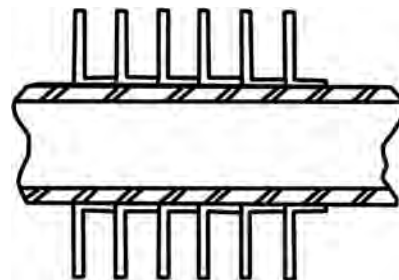

FIGURE 13.1 L-footed tension wound aluminum fin.
- *L-Footed Fins (Figure 13.1):* Most commonly used fin type in air-cooled heat exchangers. The fin is